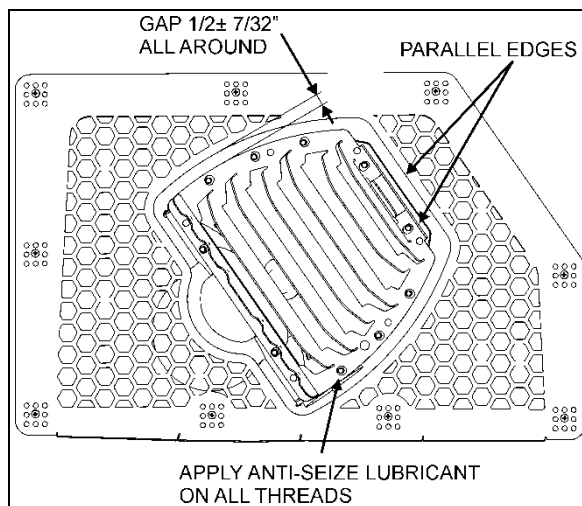

FIGURE 7: DIFFUSER POSITION ADJUSTMENT 04015\_1
- For proper angular position, make sure that the two edges shown on figure 7 are parallel with each other.